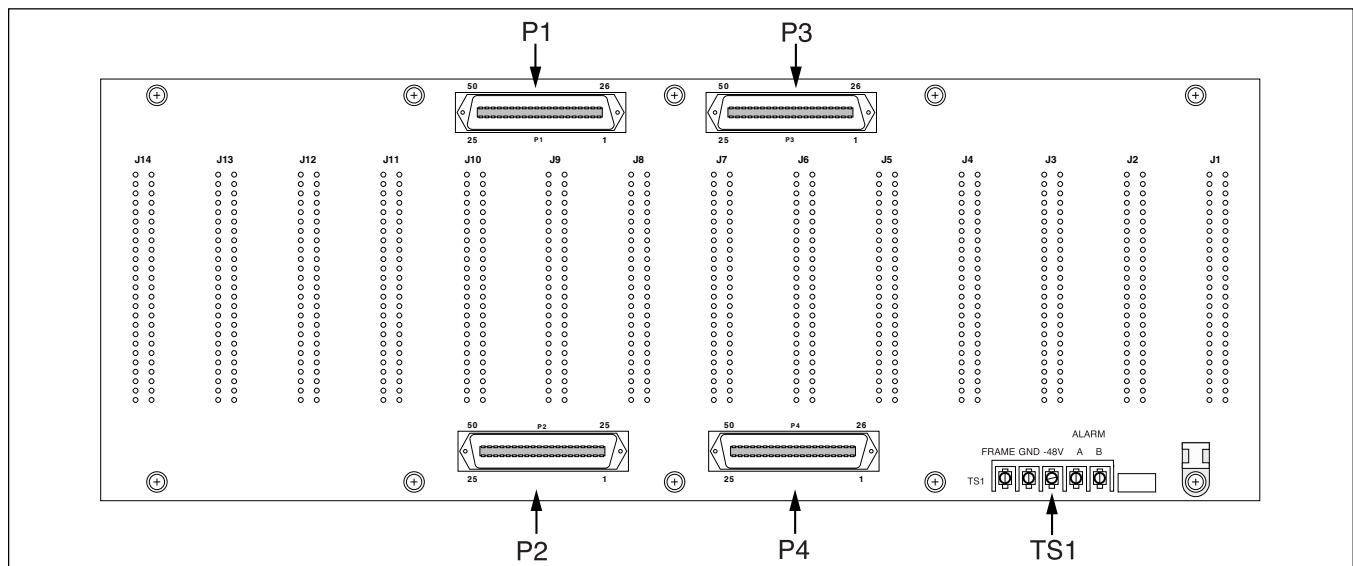

Figure 2. 23-inch T400 Backplane
The shelf backplane printed circuit board (PCB) accommodates card edge connectors plus the interconnects for signals, power, ground, and loss of power alarm (**Figure 2**). The backplane of the T400 Shelf contains the following:
11. Attach the applicable 50-pin female amphenol cables to P1, P2, P3, and P4 of the shelf backplane. See Figure 2. Use the cable tie-wrap mounts and tie-wraps provided to secure the cabling.